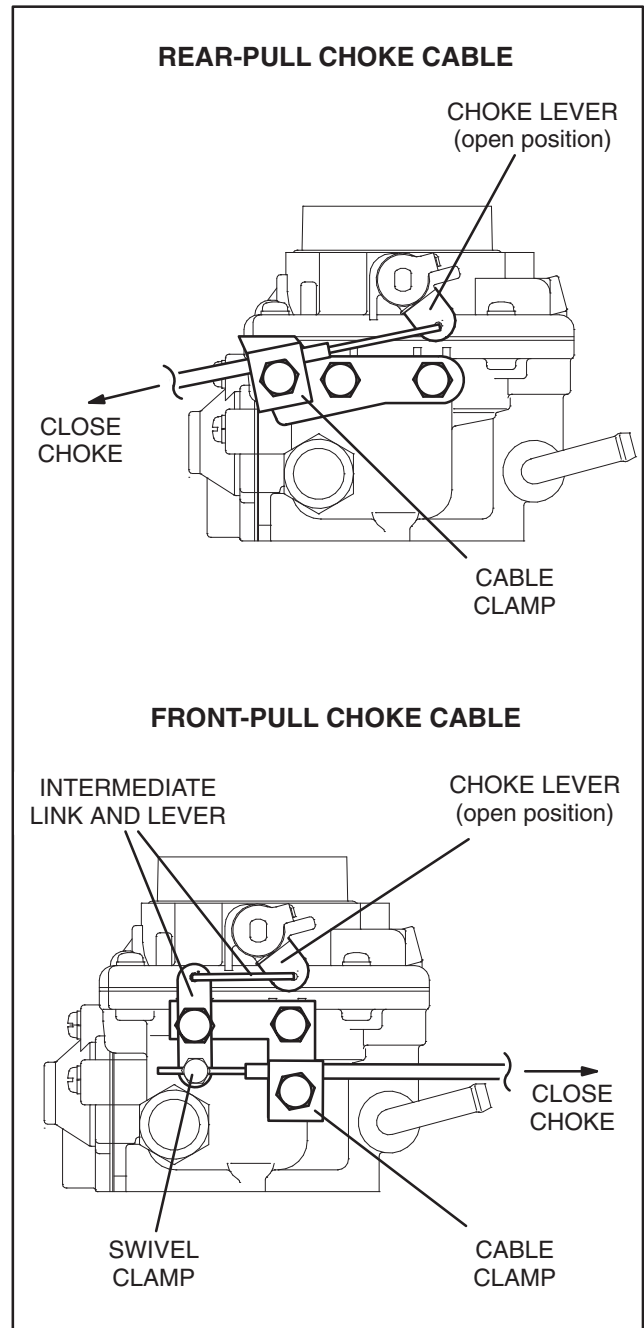

FIGURE 11. CHOKE CABLE
Referring to Figure 11, reconnect and reclamp the choke cable as follows:
3. Connect the choke cable to the choke lever. (The cable will either hook into the choke lever or be clamped by a screw in a swivel on the choke lever. See Figure 11.) Pull the slack out of the cable and clamp it.